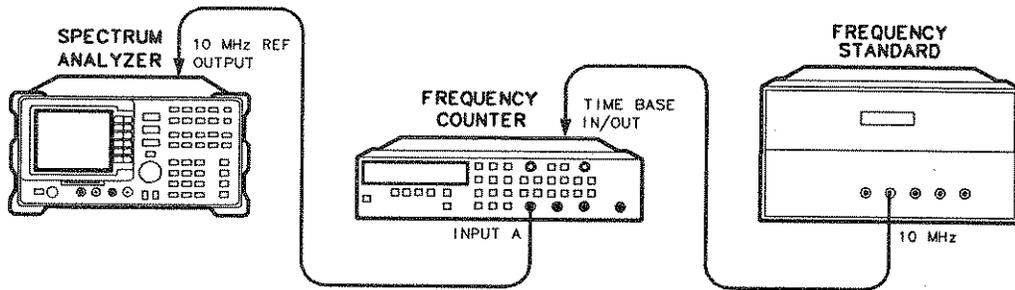

Figure 3-23. 10 MHz Reference Accuracy Test Setup, Option 004
1. Allow the spectrum analyzer to sit with the power off for at least 60 minutes before proceeding. Connect the equipment as shown in Figure 3-23.